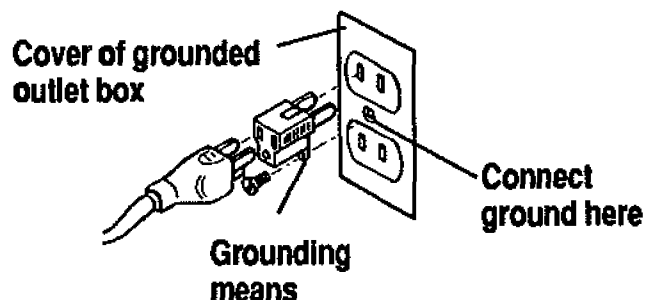

Fig. 2b
- If you have a two-hole receptacle, use a temporary adapter to plug in the planer. See Fig. 2b. The grounding lug or wire on the adapter **must** be connected to a permanent ground such as a grounded outlet box. The temporary adapter should be used only until a properly grounded outlet can be installed by a qualified electrician. (Adapters are not allowed in Canada.)